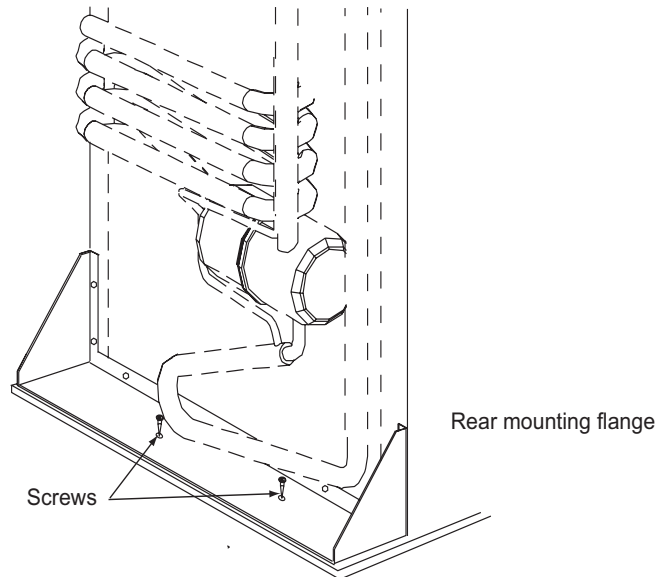

Figure 2.
14. Remove the rear mounting flange screws. See Figure 2.